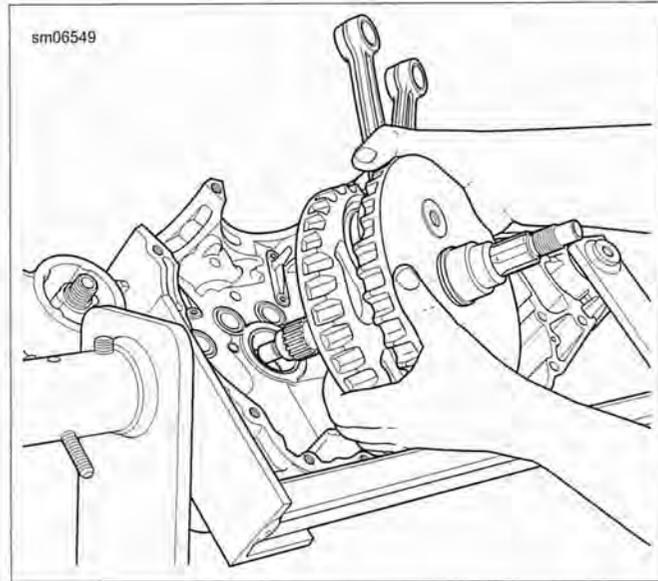

Figure 5-95. Installing Flywheel Assembly In Right Crankcase
2. See Figure 5-95. Install flywheel assembly into right crankcase half.